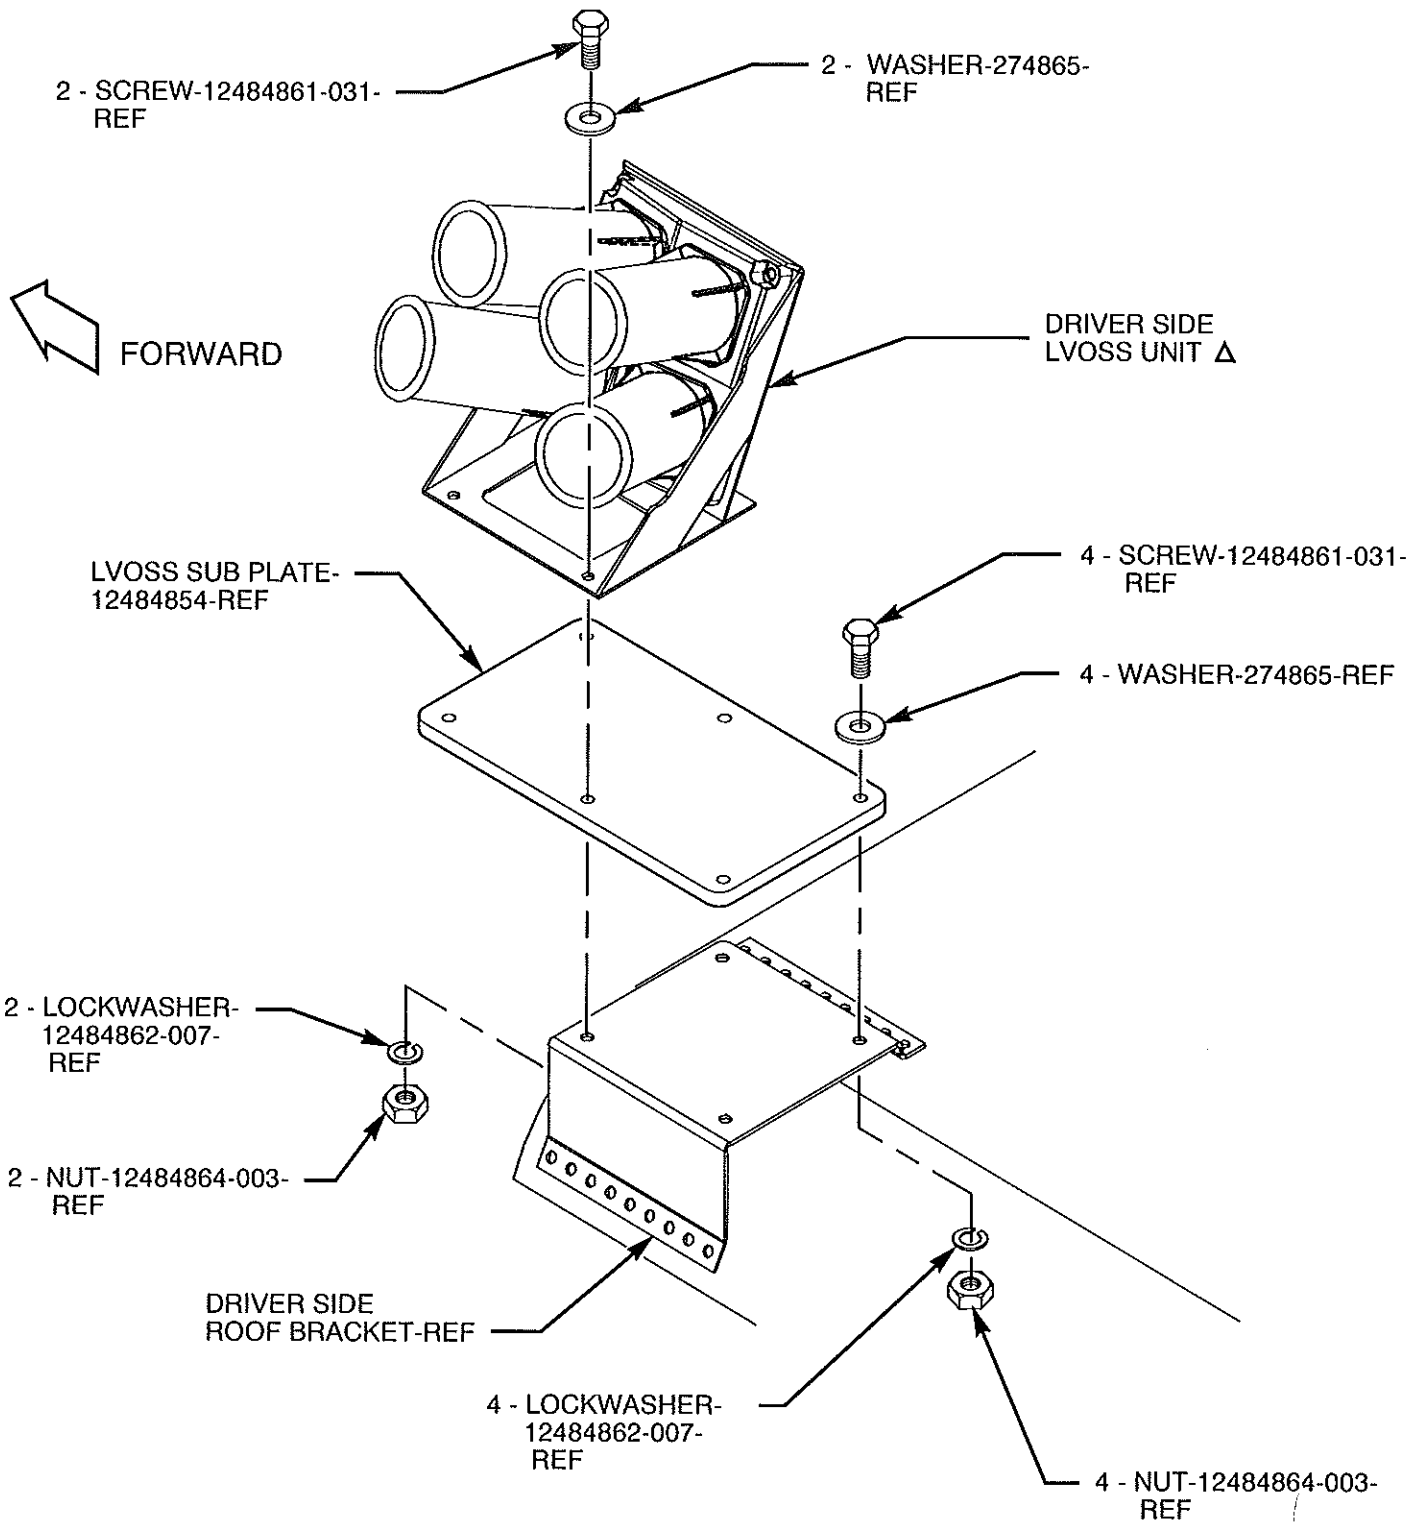

FIGURE 6
- E. INSTALL 12484854 LVOSS SUB PLATE ON DRIVER SIDE ROOF BRACKET. ENSURE "FRONT DRIVER SIDE" NOTE ON SUB PLATE IS FACING FORWARD AND UPWARD. SECURE WITH TWO 12484861-031 SCREWS, 274865 WASHERS, 12484862-007 LOCKWASHERS, AND 12484864-003 NUTS IN REAR MOUNTING HOLES ONLY. REFER TO FIGURE 6.
- F. ENSURE DRIVER SIDE FRONT LVOSS UNIT IS ORIENTED PROPERLY, AND SECURE TO 12484854 LVOSS SUB PLATE WITH FOUR 12484861-031 SCREWS, 274865 WASHERS, 12484862-007 LOCKWASHERS, AND 12484864-003 NUTS AS SHOWN IN FIGURE 6. TIGHTEN SIX 12484861-031 SCREWS TO 21 LB-FT (28.5 N·m).